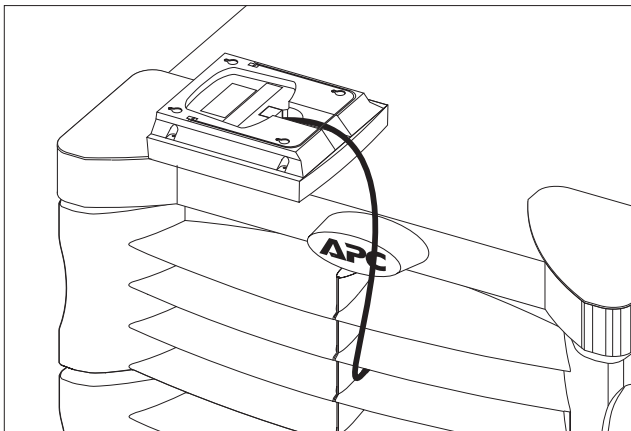

Fig 5-12 Attach the Cable to the PowerView
3. Connect the RJ45 plug into the receptacle on the back of the PowerView as shown in figure 5-12.
2. Connect the other end of the cable to the receptacle at the rear of the PowerView. See figure 5-12.